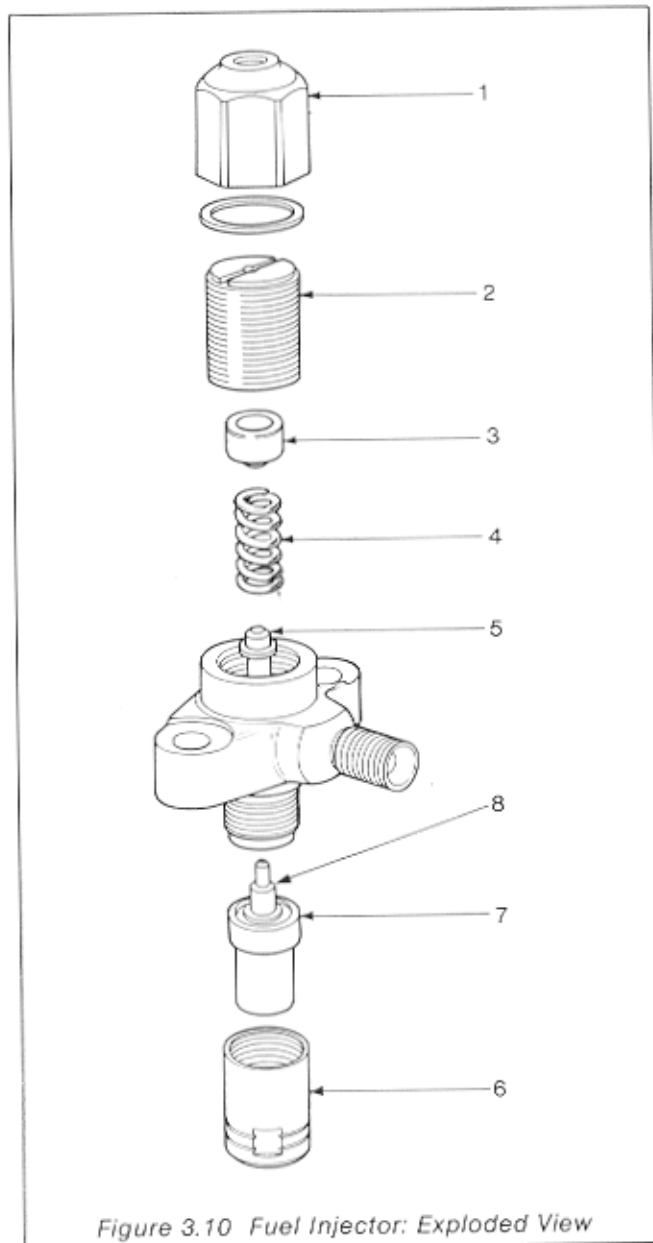

Figure 3.10 Fuel Injector: Exploded View
### Dismantling (Figure 3.10)
**Assembly (Figure 3.10)**